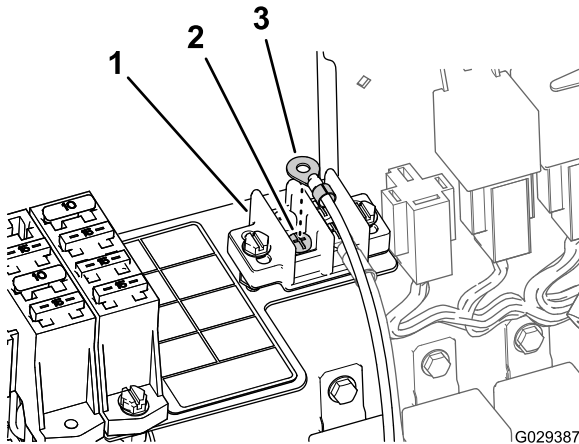

Figure 19
1. Remove a screw from the ground-terminal block (Figure 19).
2. Secure the ring terminal of the wiring harness for the finishing kit to the ground-terminal block with the screw that you removed in step 1 (Figure 19).